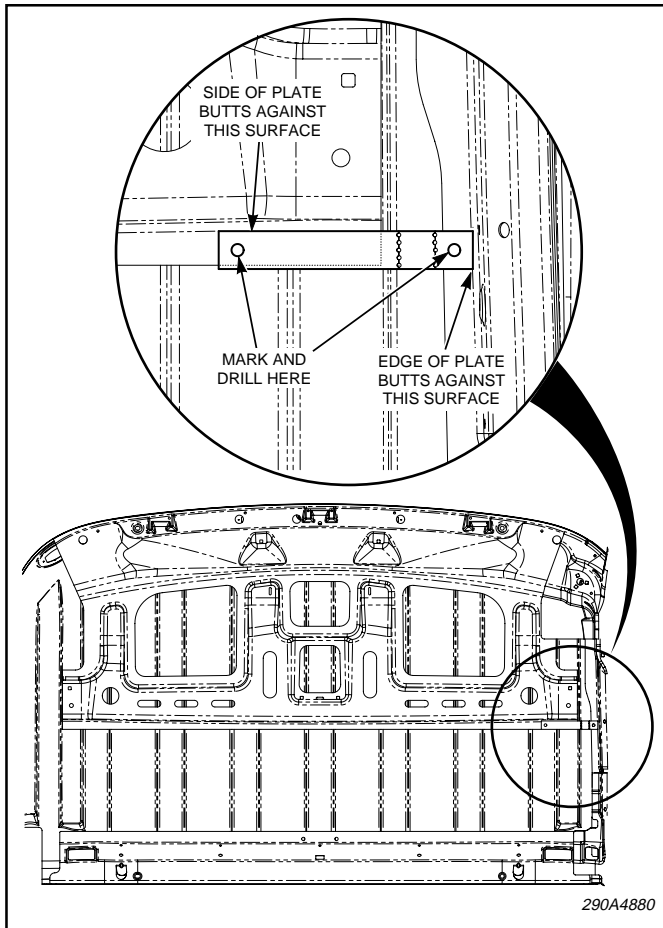
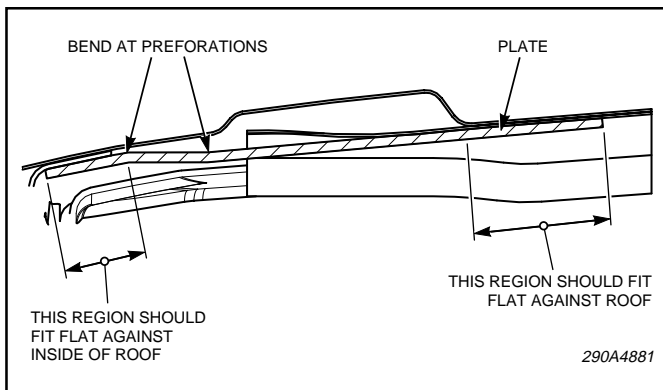

Figure 1.
Figure 2.
2. Locate the sheet metal features that are shown in figure 1. There are several layers of sheet metal in these locations, which will be drilled through to mount the bracket.
3. Place the drill template at the location shown in figure 1. Bend the plate at the perforations, so that it lies flat against the roof where the holes will be drilled. See figure 2 for a cross section view. The plate must be aligned with the edges as shown. This will locate 2 of the 4 holes for the adapter bracket. Mark the center of each hole and repeat this step for the opposite side.